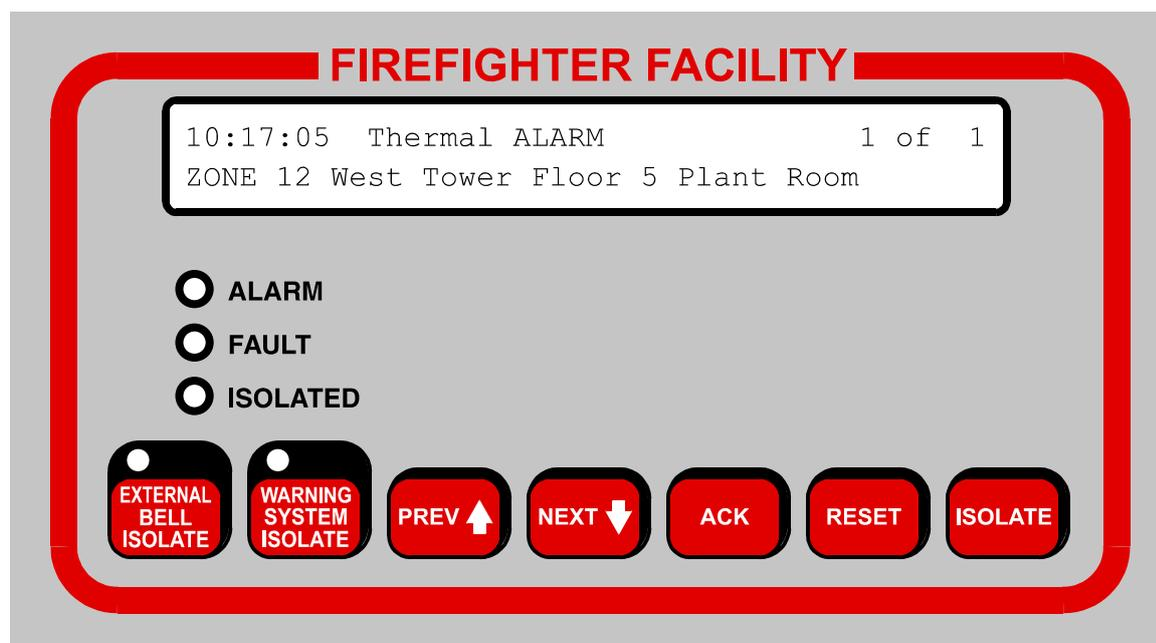

FIG 5.1
When an alarm occurs, the RDU switches automatically from the base (or other) display to FF mode and displays the alarm. The keys that can be used are then limited to those within the Firefighter's Facility (FF). The FF is the area of the keypad within the red border, as shown in Figure 5.1.
- (iii) Whether the alarm is acknowledged or not (Figure 5.1 shows an unacknowledged alarm).